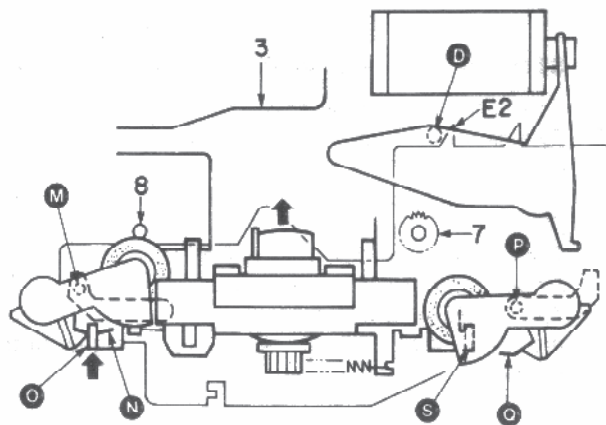

Fig. 14 Perspective view from the front
2-12) When the SUB-CHASSIS comes to the top, the spring (Q) of the pinch roller (R) does not contact the SUB-CHASSIS edge (S) because the SLIDER is fixed in position of Fig. 14 by the pin (D) of the FD ARM, and the pinch roller (R) is not pressed against the capstan because the boss (P) is held by the groove of the SLIDER.